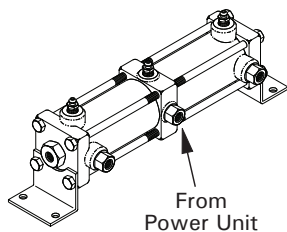

FIGURE 20
6. Connect one end of the new tubing to the dual actuator. See Figure 20.